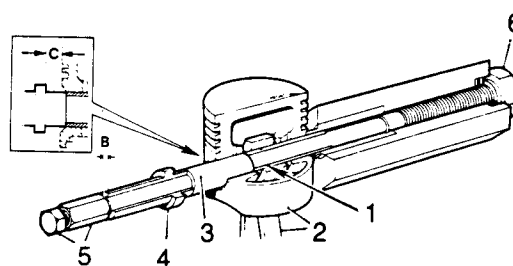

Fig B5.2
- (3) Refer to Fig B5.2. Slide the parallel sleeve (1), groove end last onto the centre screw, and up to the shoulder.
- (4) Lubricate the gudgeon pin and bores of the connecting rod and piston with graphited oil (Acheson's Colloids 'Oildag').
- (5) Fit the connecting rod and piston to the tool (2) with the connecting rod entered on the sleeve up to the groove.
- (6) Fit the gudgeon pin (3) into the piston bore up to the connecting rod.
- (7) Fit the remover/replacer bush (4) with the flanged end towards the gudgeon pin.
- (8) Screw the stop-nut onto the centre screw; adjust the nut to give a 1,0 mm end-play (dimension B) and lock the nut securely with the lock screw (5).
- (9) Screw the large nut up to the thrust race (6).
- (10) Set the torque wrench to 16 N.m (this represents the minimum load for an acceptable fit).
- (11) Using a torque wrench on the large nut, and holding the lock screw, pull the gudgeon pin in until assembly dimension (dimension C) is 8,5